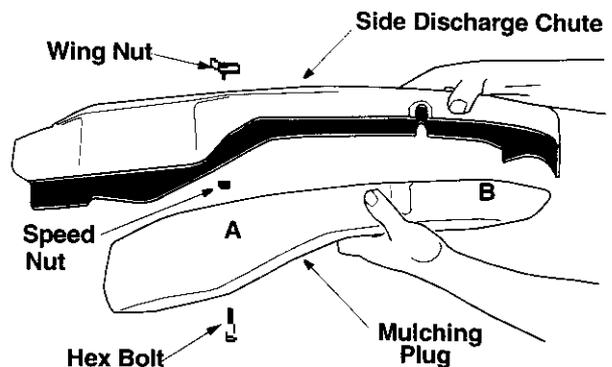

Figure 5
- To assemble the mulching plug, put two hex bolts through the mulching plug at the respective openings. See Figure 5.
- Place wing nut on each of the hex bolts and thread a few turns. See Figure 5. Check that the plug is aligned correctly within the discharge chute.